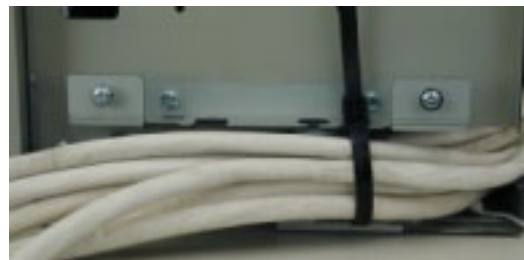

Figure 2-23 Tie-wrap Cables
4. Secure all Amphenol cables to the cabinets with tie wraps (see Figure 2-23).